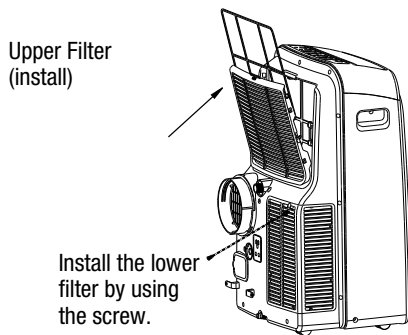

FIG. 28
- **MOUNTING:** Install the upper and lower air filters after cleaning as shown in Fig. 28. Be sure to use the screw for the lower filter.